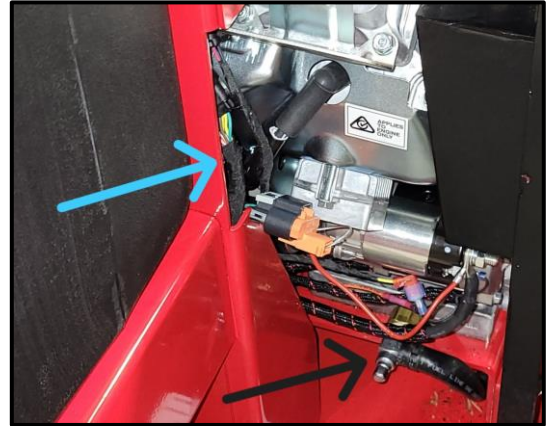

Figure 29 Main Harness Plugs Near Oil Drain Hose
36. Disengage the red locking tab on the 16-pin plug that connects the main machine harness to the engine in the area shown by the blue arrow beside the oil drain hose shown by the black arrow in [Figure 29].